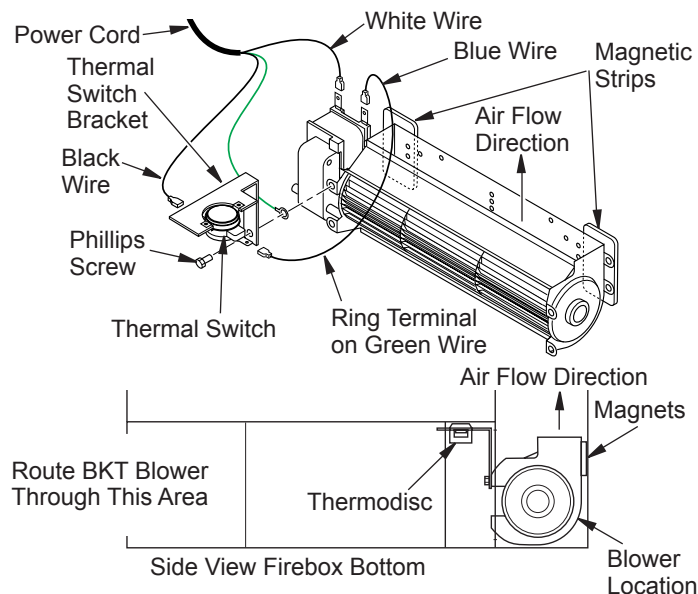

Figure 28 - Blower Model BKT
1. Place the green ground wire with ring terminal between the bottom hole on the thermal switch bracket and the top ear hole on the blower assembly. Insert the Phillips screw into all three pieces and tighten securely (see Figure 28, page 16).
- Place the blower against the lower rear wall of the firebox outer wrapper with the exhaust port directed upward and the thermodisc positioned up near the fireplace bottom. The thermodisc must be oriented near the fireplace bottom as shown in Figure 28 in order to sense temperature and properly operate. The blower will be held in position against the back wall by the magnets incorporated onto the blower housing (see Figure 28).